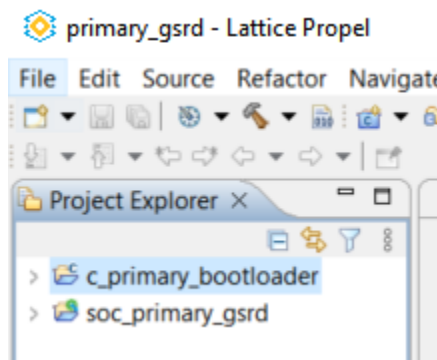

Figure 8.14. Bootloader C Project Created
15. This loads the bootloader project in the workspace as shown in Figure 8.14.